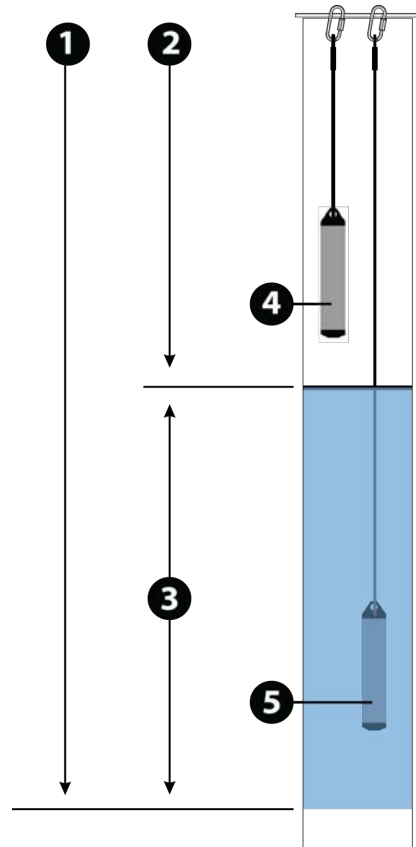

Figure 1.1 Rugged BaroTROLL and Rugged TROLL deployment
4. Disconnect the BaroTROLL, attach the hanger, and deploy it suspended or lying in a protected location above water level near the submerged Rugged TROLL 100 or 200. One possibility is shown in Figure 1.1 .